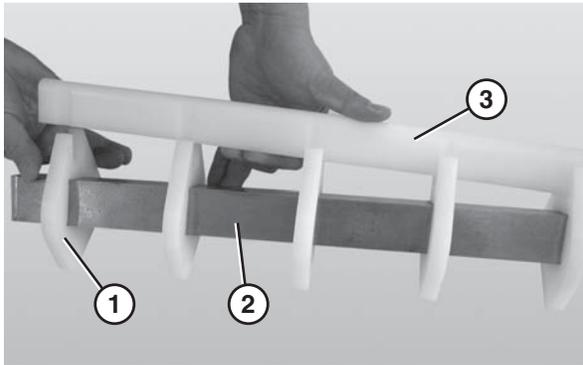

Figure 66
3. Remove the nose bar wear strip (**Figure 66, item 3**).
4. Slide the nose bar pucks (**Figure 66, item 1**) off the nose bar shaft (**Figure 66, item 2**).